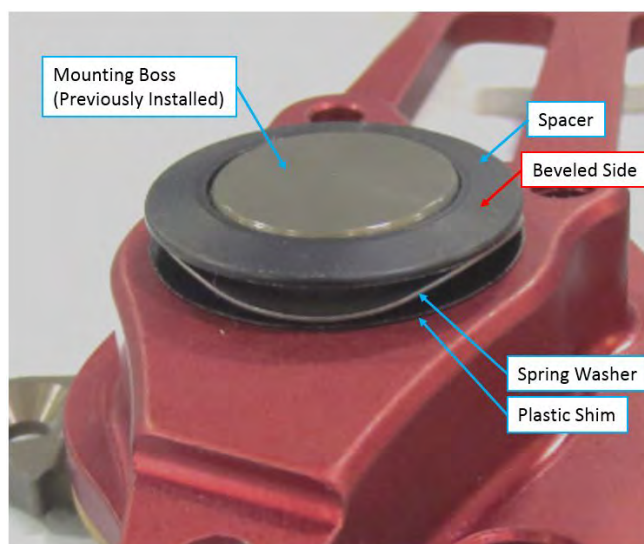

FIGURE 17-12
- e. Place a 98090A365 plastic shim on the mounting boss shaft, followed by a 9714K999 wave spring and ICA008147 spacer as shown in Figure 17-12. Orient the spacer with its beveled side facing away from the handle as shown.